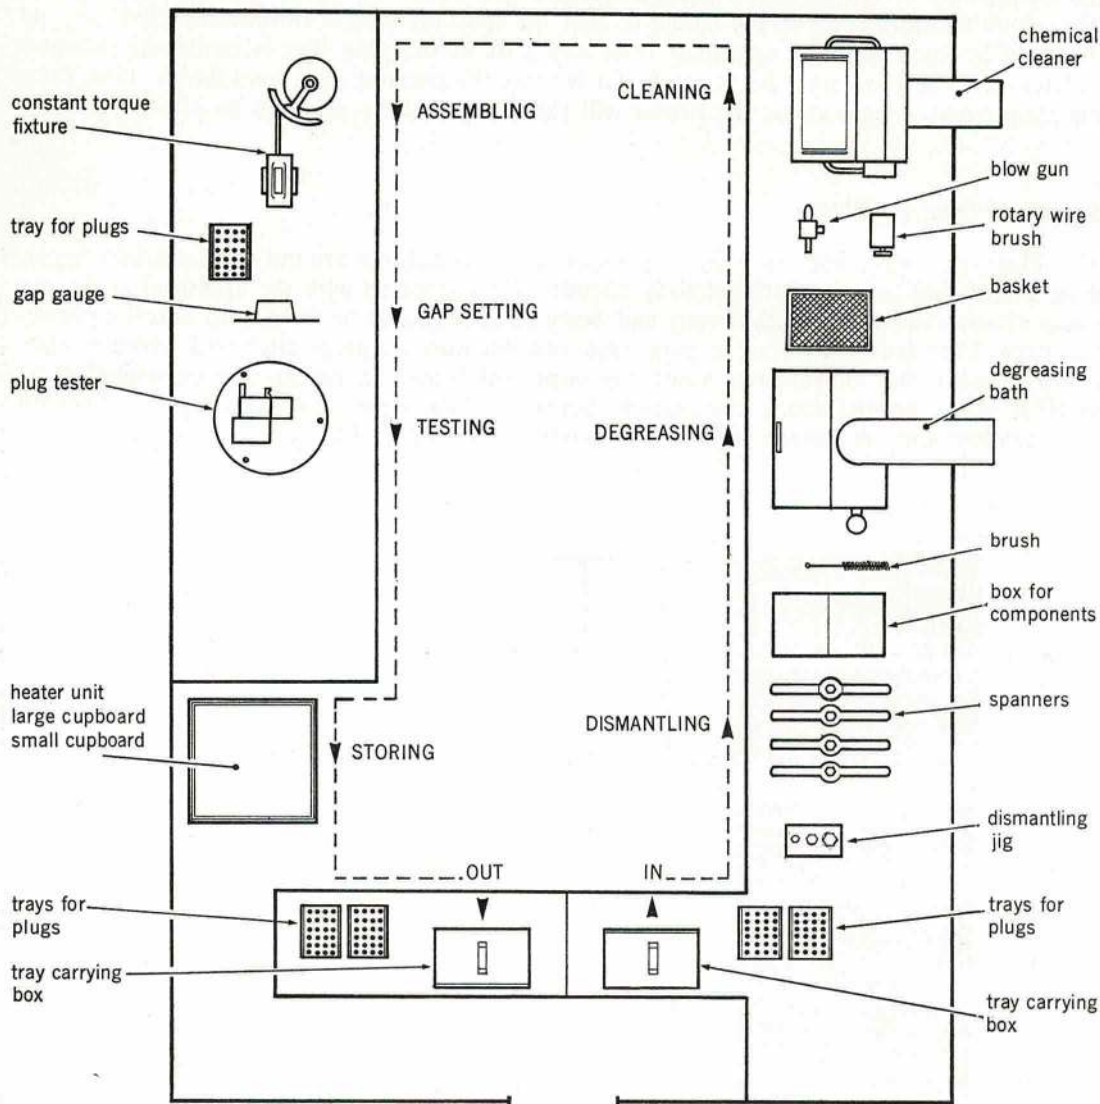

Fig 1.8.11 Layout of servicing bay
38. A typical layout of a servicing bay is illustrated at Fig 1.8.11.